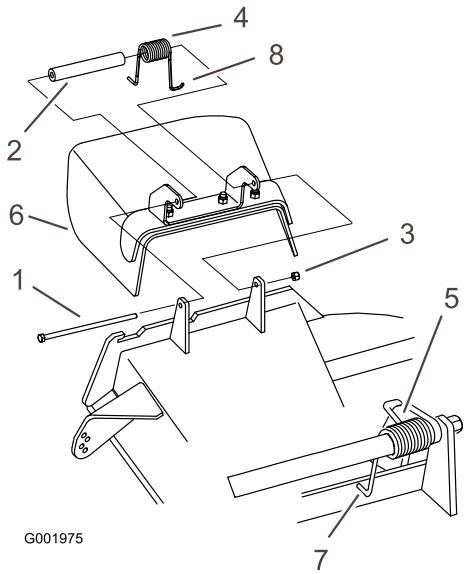

Figure 73
1. Remove the locknut, bolt, spring and spacer holding the deflector to the pivot brackets (Figure 73). Remove damaged or worn grass deflector.
Note: Make sure the **L** end of spring is installed behind deck edge before installing the bolt as shown in Figure 73.
3. Install bolt and nut. Place the **J** hook end of spring around grass deflector (Figure 73).